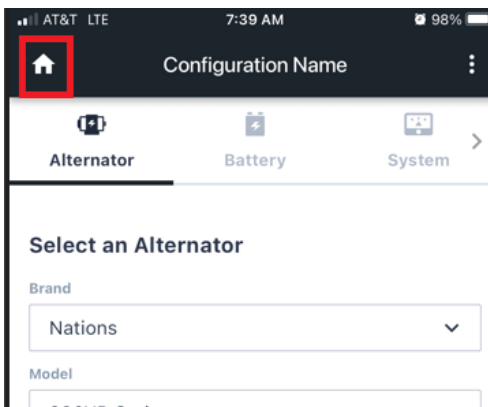

Figure 11A – Select Home button
- Input the settings shown below in Figures 11A, 11B, 11C, 11D, 11E, 11F & 11G.